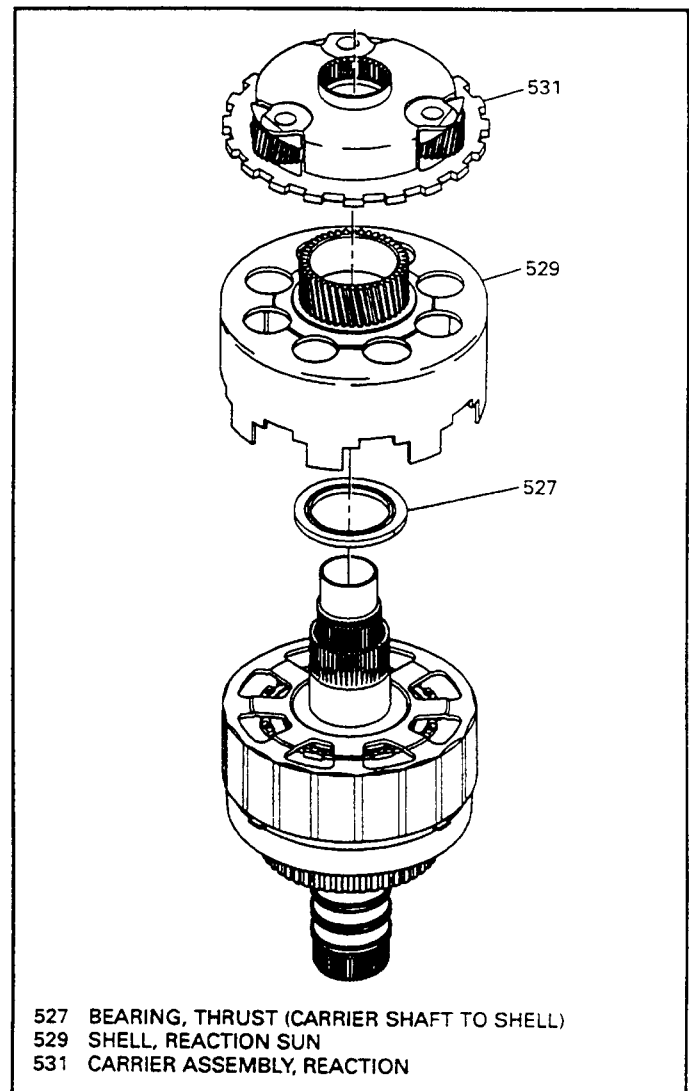

Figure 138
34. Install the thrust bearing (527) onto the top of the reaction sun shell assembly as shown in Figure 138.
35. Install the reaction sun gear and shell assembly (529) onto the reaction shaft shell, as shown in Figure 138.